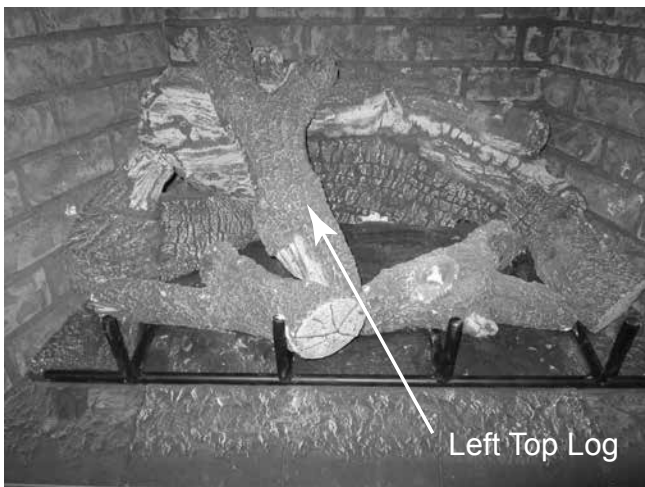

Figure 11.15
- Place left top log on locating pin on top of back log. Rest front edge log on left and right front logs. See Figure 11.15.